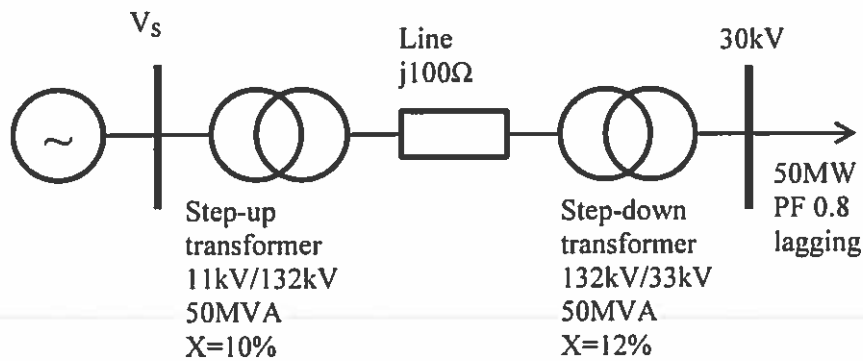

Figure 4
- c) Circuit diagram of a three phase system is shown in Figure 4 below.